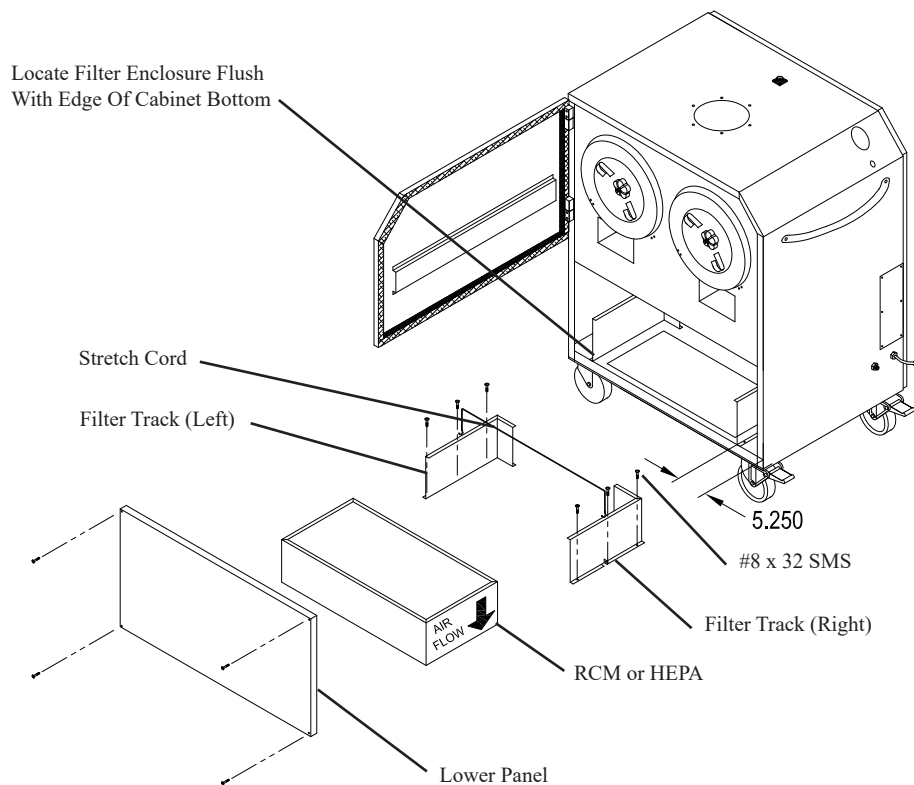

Fig. 2
1. Remove the four (4) screws used to attach the lower panel and remove lower panel from the **Mule1000**.
3. Locate filter tracks shown in Fig. 2. Filter tracks are to be located flush to front edge of cabinet bottom and centered above the exhaust opening (align filter track over pre-punched holes).
4. Secure filter tracks to the **Mule1000** using six (6) each #8 x 1/2" sheet metal screws provided.